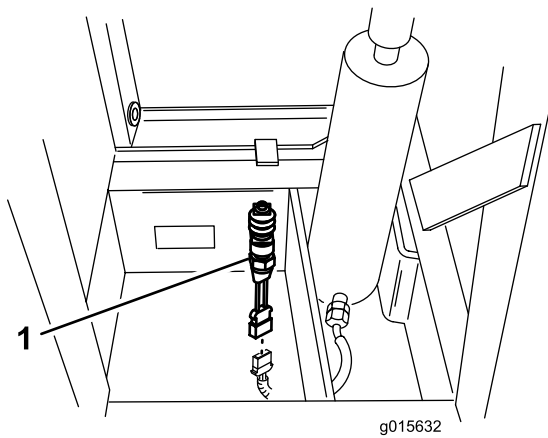

Figure 19
3. Route the harness to the hopper switch mounted to the frame tube (Figure 19) and plug the harness into the switch.